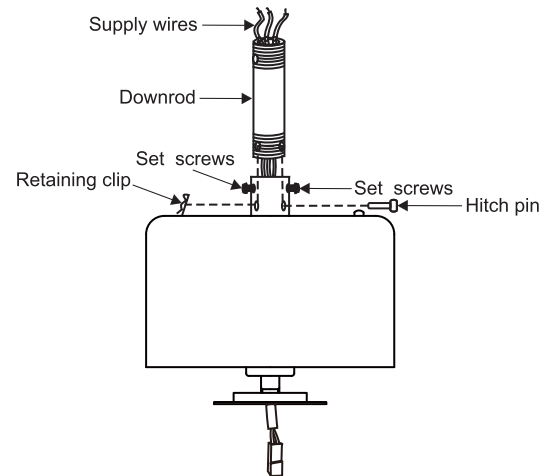

Fig. 8
Step 6. Loosen the two set screws and remove the hitch pin and retaining clip from the coupling on top of the motor assembly. (**Fig. 8**)
Next, replace the hitch pin and retaining clip. Tighten both set screws. (**Fig. 8**)